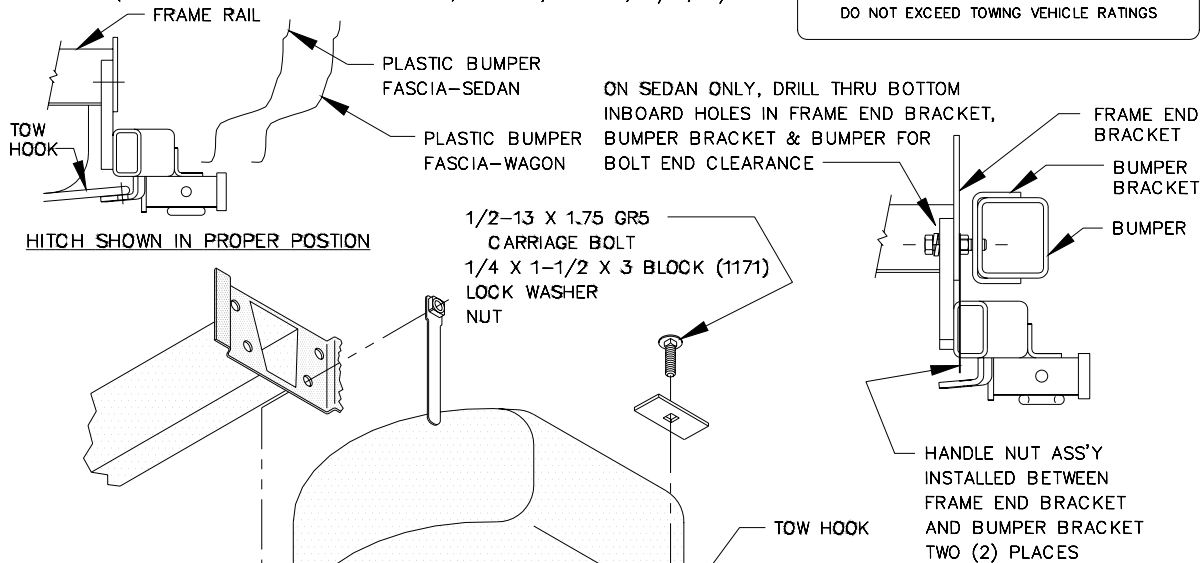

FIGURE 1
2. DRILL THRU BOTTOM INBOARD HOLES IN FRAME END BRACKETS, INTO BUMPER BRACKET AND BUMPER FOR BOLT END CLEARANCE AS SHOWN IN FIGURE 1.
3. LOOSEN THREE (3) BOLTS THAT ATTACH BUMPER BRACKET TO END OF THE FRAME RAIL.